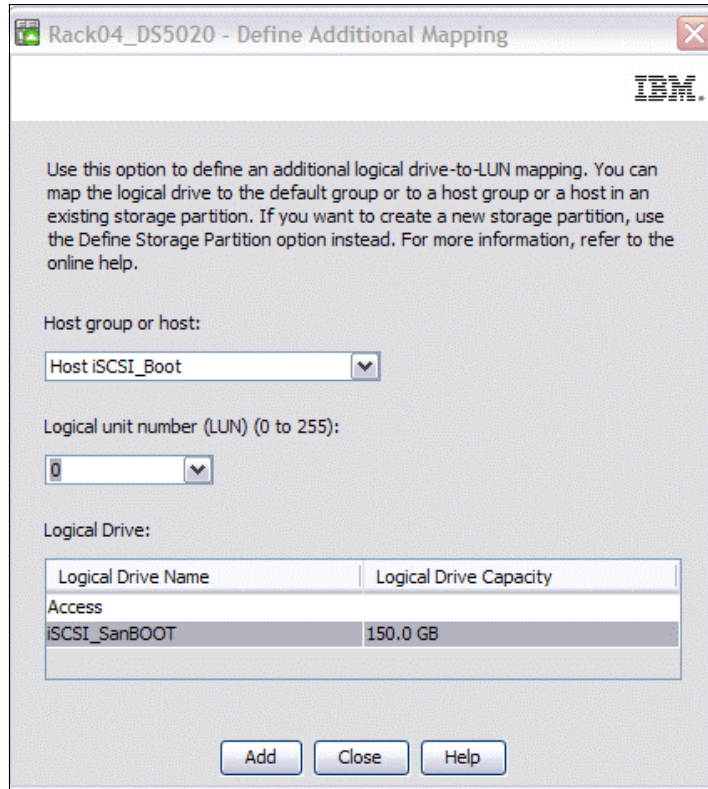

Figure 6-33 Assign Host
- b. In the Define Additional Mapping window, choose the desired host from the drop-down menu. Next, for the boot LUN, choose LUN 0 (zero), as shown in Figure 6-33.